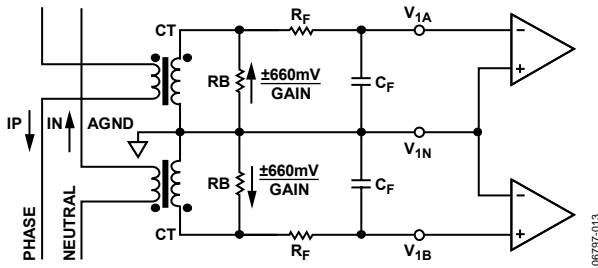

Figure 15. Typical Connection for Channel V1
Figure 15 shows a typical connection diagram for Channel V1. The analog inputs are used to monitor both the phase and neutral currents. Because of the large potential difference between the phase and neutral, two current transformers (CTs) must be used to provide the isolation. Note that both CTs are referenced to analog ground (AGND); therefore, the common-mode voltage is 0 V. The CT turn ratio and burden resistor (RB) are selected to give a peak differential voltage of  $\pm 660$  mV/gain.